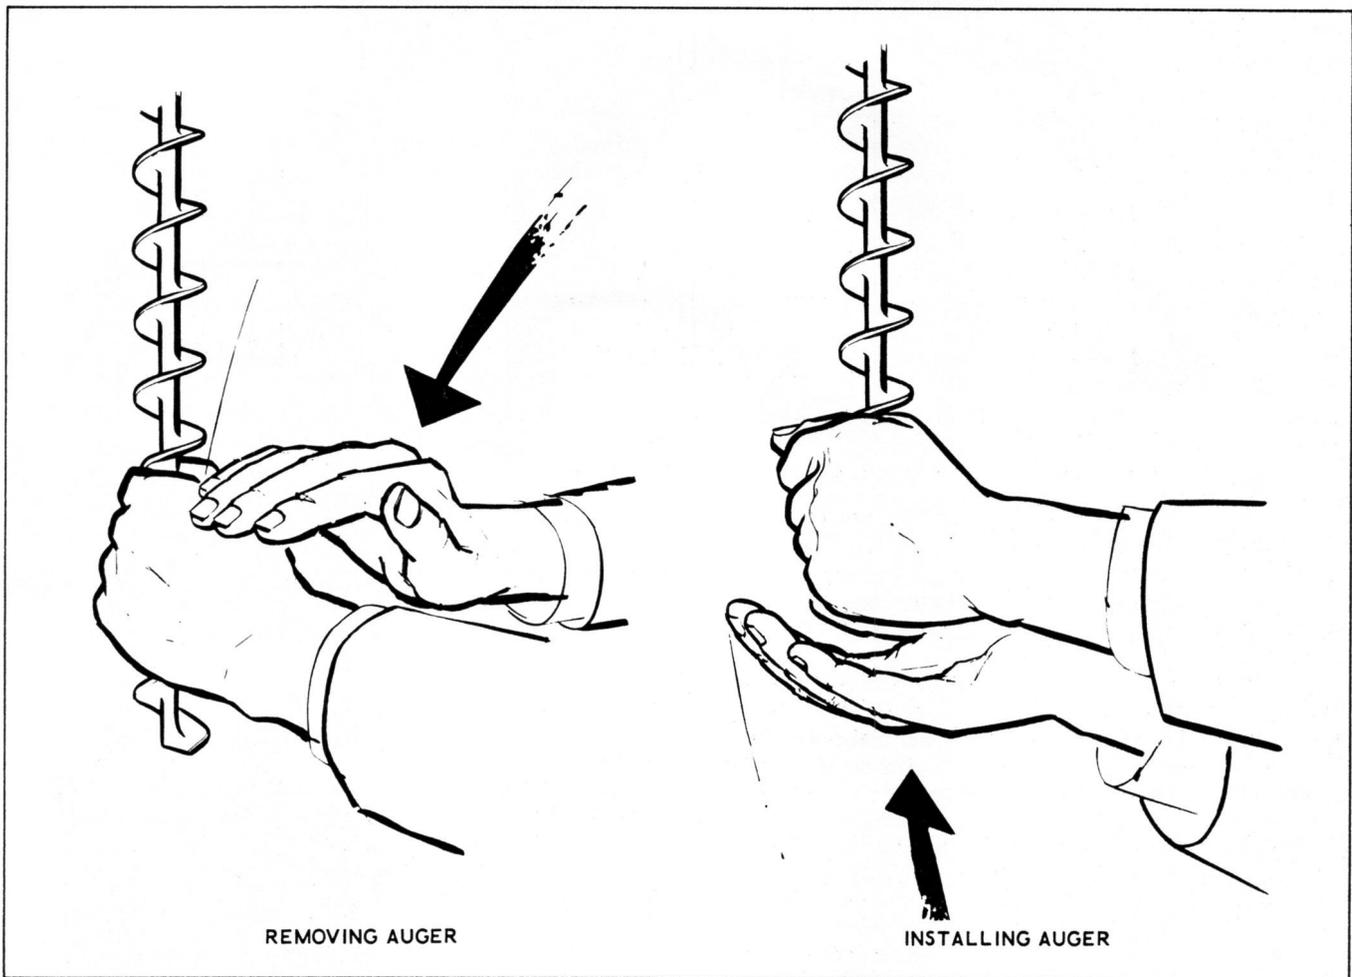

Figure 3-61. Removing and Installing Auger
b. Changing Auger. To change an auger, remove tooling and funnel. Grasp auger with left hand and hit downward with right hand as shown in Figure 3-61. Install auger by aligning top end with auger drive
shaft. Hold auger at bottom with left hand so that bottom of hand extends below auger. Hit left hand with an upward motion of the right hand as shown in Figure 3-61.